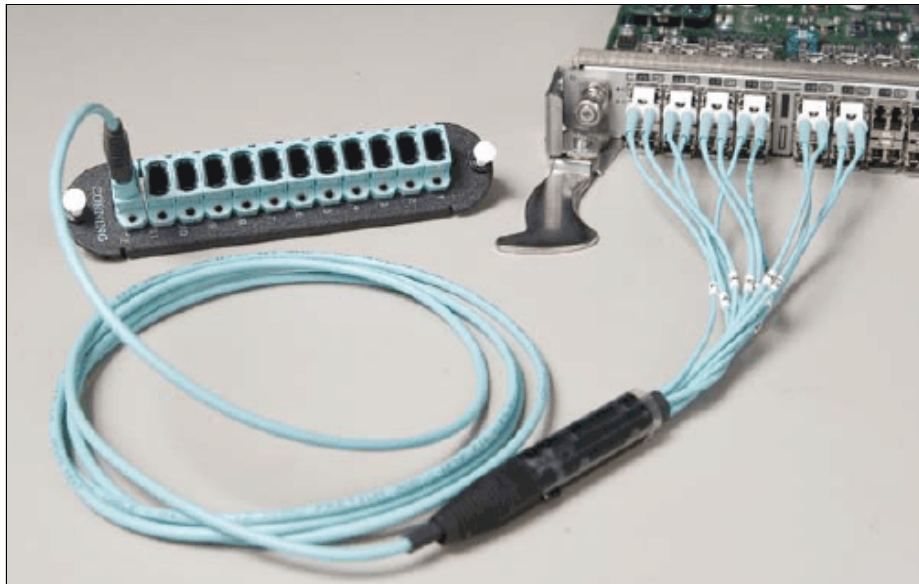

Figure 6-1 An LC-MPO fan-out cable consolidates six duplex LC ports into one MPO connection
Using fiber cable assemblies that have a single connector at one end of the cable and multiple duplex breakout cables at the other end is an alternative to alleviate cable management. Multifiber Push-On (MPO) cable assemblies can achieve these goals. The idea is to pre-connect the high-density and high-port-count Lucent Connector (LC) equipment with an LC-MPO fan-out cable (shown in Figure 6-1) to dedicated MPO modules within a dedicated patch panel. After the panel is fully cabled, this patch panel functions as though it were “remote” ports for the equipment. These dedicated patch panels ideally should be above the equipment whose cabling they handle for easier access to overhead cabling. Using this strategy drastically reduces equipment cabling clutter and improves cable management.
As an example, the MPO module that is shown in Figure 6-1 on page 189 is housed in a modular patch panel that is installed above a Fibre Channel director switch at the EDA. MPO trunk cables are used to link this patch panel to another modular patch panel at the HDA. The patch panel at the HDA converts the MPO interface back to the LC interfaces by using MPO-to-LC cassettes. MPO trunk cables can accommodate up to 72 individual fibers in one assembly, providing 36 duplex connections.